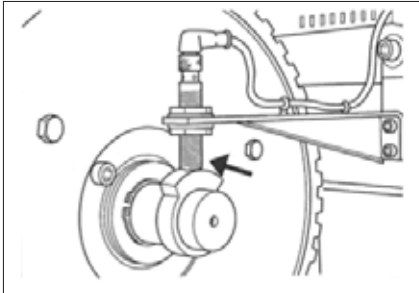

Figure 2
Carefully turn the cutting tool by hand until the cutting area is in the upper position, see fig. 2.
To sense the upper position an inductive sensor is fitted that is activated by a cam so that the sensor connects the current supply to the motor only when the cutting area is in the upper position, see fig 2.
1. Check to make sure that the cutting area on the cutting tool is in the upper position, see fig 2 on page 20.